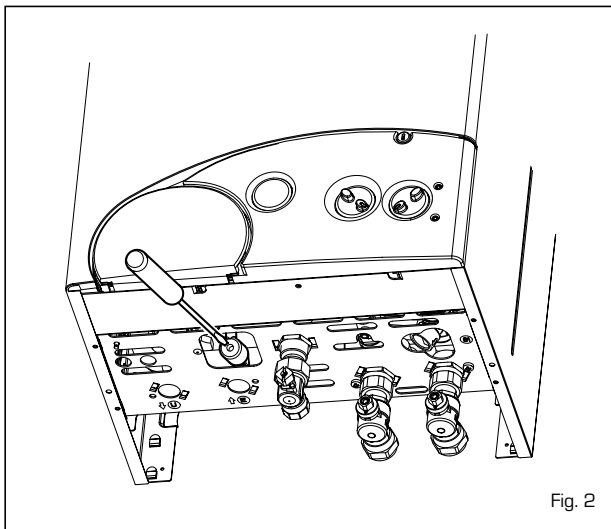

Fig. 2
If this occurs, allow the appliance to cool, reinstate the thermostat button as shown in fig. 2, turn the rotary switch to “” position until both leds on the facia panel flash; then turn it back to the previous position.
**NOTE: an interruption in the electricity supply whilst the burner is alight may cause the overheat thermostat to operate. If this is suspected, allow the appliance to cool, reinstate the thermostat button as shown in fig. 2, turn the rotary switch to “” position until both leds on the facia panel flash; then turn it back to the previous position.**